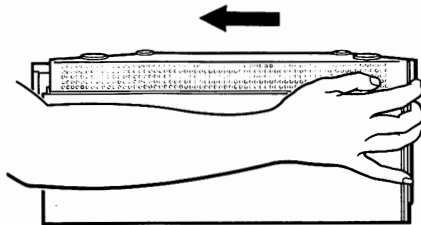

Figure 2-10. Slide bottom cover into place.
- Slide the cover toward the rear of the processor until it is in place. Be sure that the edges of the cover fit over the processor frame. See Fig. 2-10.